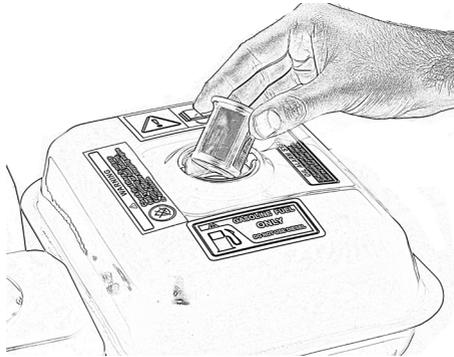

Figure 15
- Open the tank cap and remove the tank strainer, Fig. 15.